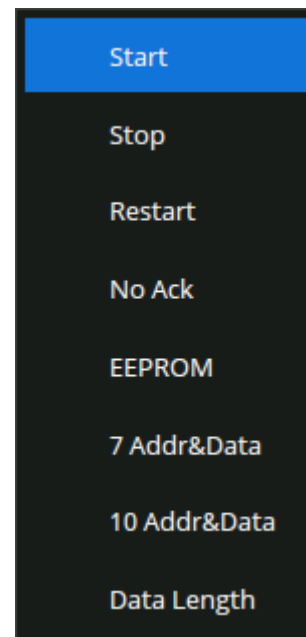

Figure 10.8
- The dropdown menu shown in figure 10.8 will be displayed.